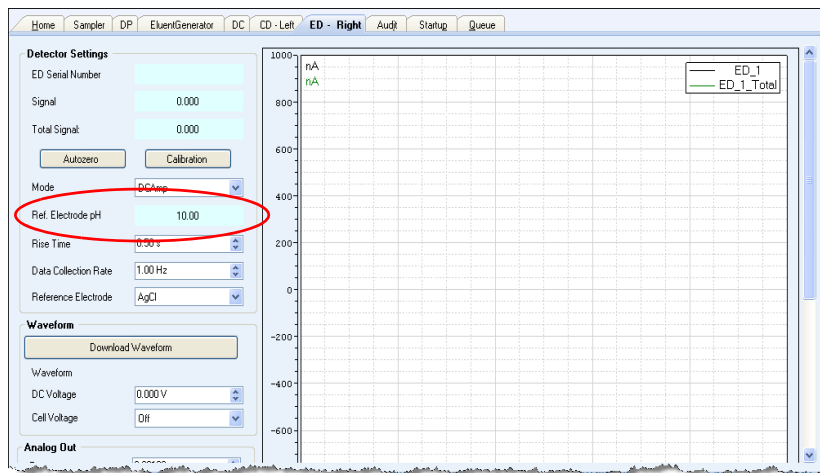

Figure 4-1. Monitoring the pH-Ag/AgCl Reference Electrode pH
2. When you run your first chromatographic instrument method or program, note the pH value displayed on the Chromeleon panel (see Figure 4-1).